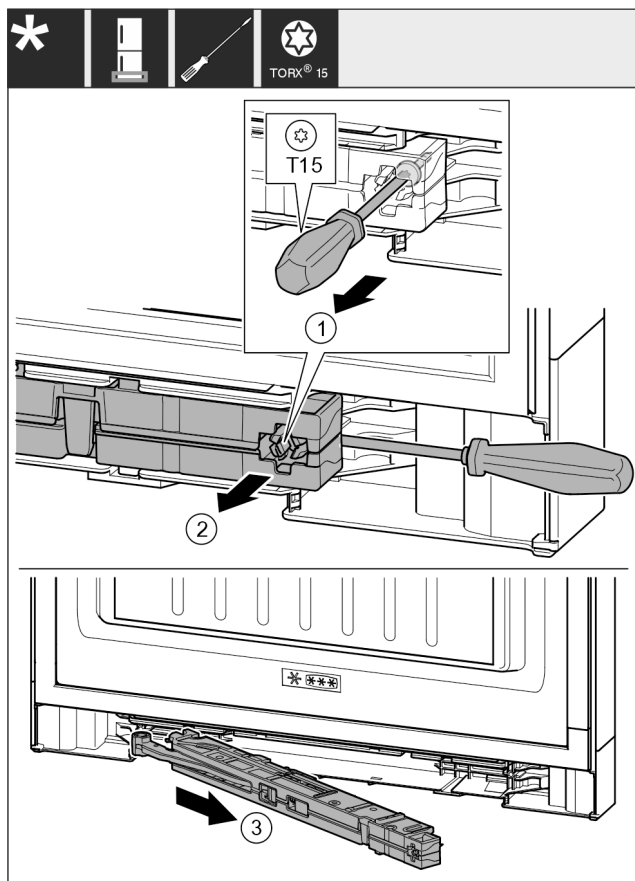

Fig. 17
- Use screwdriver to loosen the screw Fig. 17 (1) on the closing damper unit by 14 mm.
- Lever the closing damper unit Fig. 17 (2) forwards on the handle side using a screwdriver.
- Pull out the closing damper unit Fig. 17 (3).